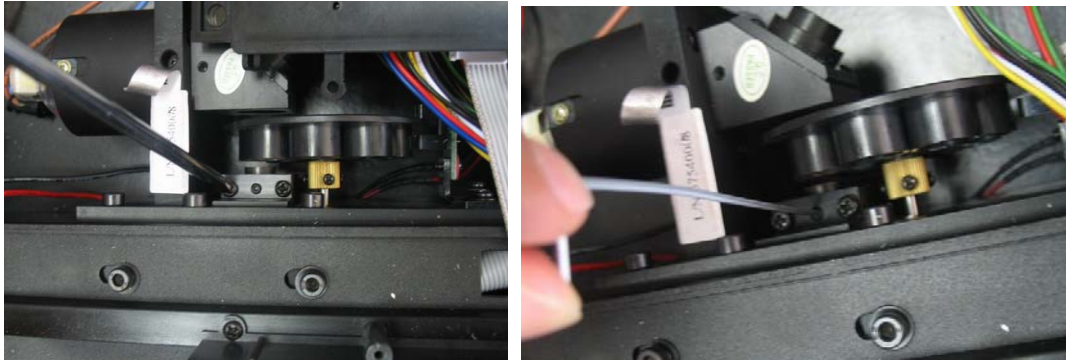

Figure 3-33
- 4、 Use a cross screwdriver M3 to loosen the screws which fix the optical fiber head, please note that you do not need to take the screw out. Then fix the screw in the middle by hex wrench M3, as shown in figure 3-33.